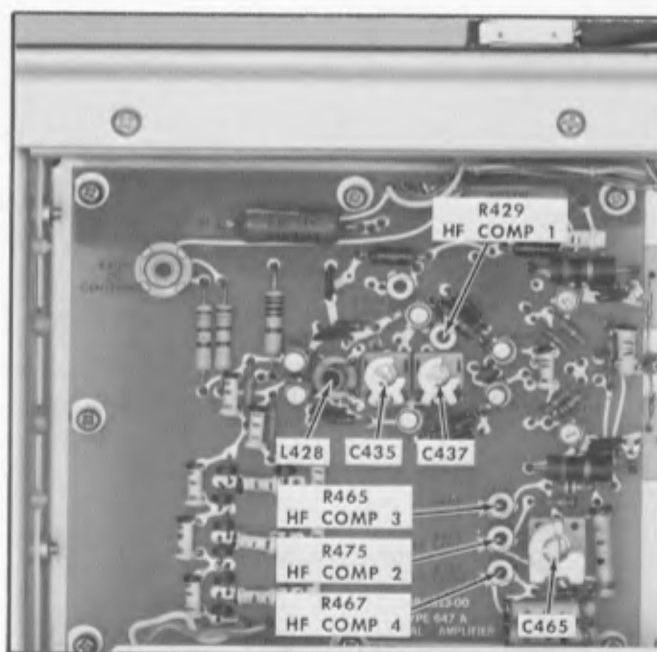

Fig. 6-22. Location of vertical compensation adjustments.
h. ADJUST—HF Comp 1, R429; HF Comp 2, R467; HF Comp 3, R465, C465; HF Comp 4, R475, C475, C435 and L428 (see Fig. 6-22) as shown in Table 6-2 for a waveform having an optimum risetime with minimum (less than 3%) overshoot, rolloff, tilt and ringing, and minimum (less than 2.5%) preshoot. Repeat the adjustments in Table 6-2 until all adjustments are correctly made.